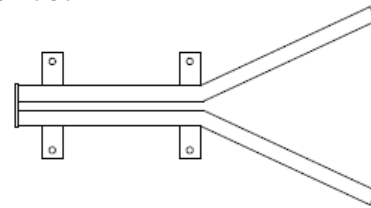

Figure 5: V guide bracket bent
1. Pry open V guide bracket (Appendix B #29) at cuts so tips extend towards pocket walls as shown in Figure 5.